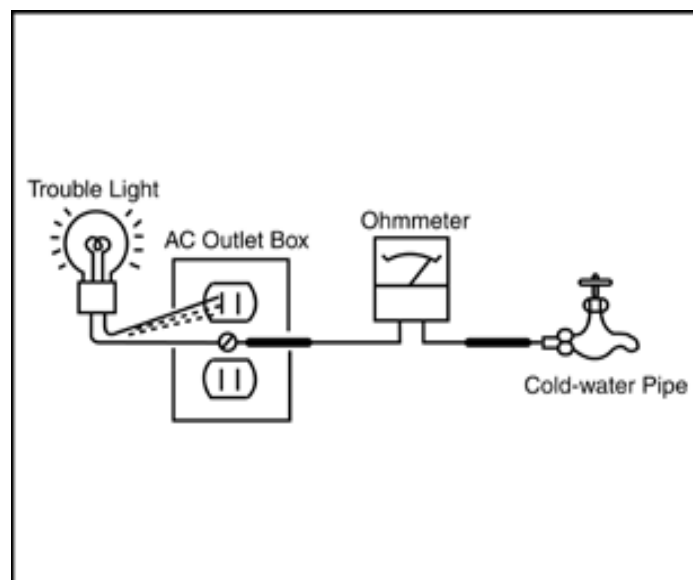

Figure 3. Checking for earth ground.
- 3) If a cold-water pipe is not accessible, connect a 60- to 100-watt trouble- light (not a neon lamp) between the hot side of the receptacle and the retaining screw. Try both slots, if necessary, to locate the hot side on the line; the lamp should light at normal brilliance if the screw is at ground potential (see Figure 3).